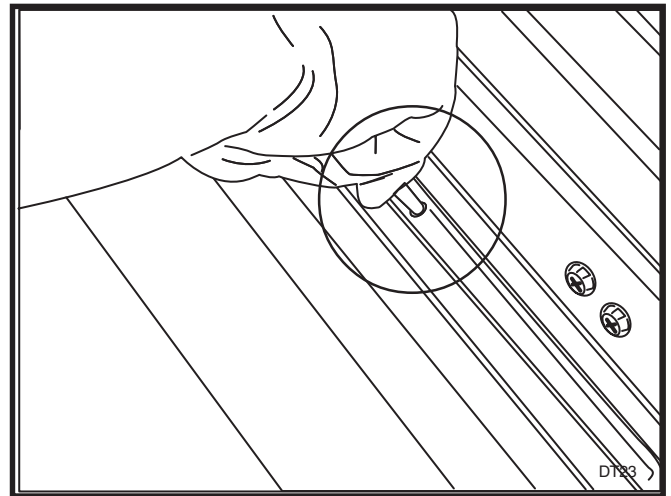

FIGURE 5
14. Rotate axle to line up the holes with the agitators holes. Using the self-tapping screws attach the agitators to the rear axle. See Figure 5.